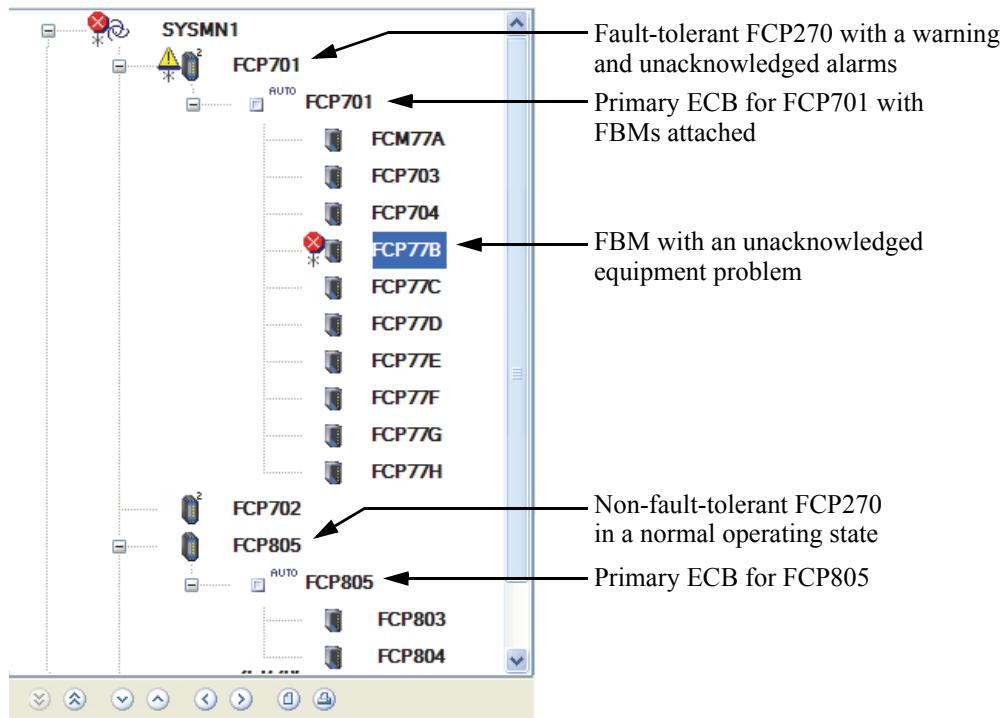

Figure 5-3. FCP270s and their Primary ECBS (Primary FBMs)
- Fieldbus Modules (FBMs) when the control processor is an FCP280, FCP270, CP40, or CP30 (Figure 5-3)
A symbol attached to the upper left corner of the control station, CNI, or ATS icon indicates an adverse condition. For example, for a station or one of its field devices, the warning symbol on FCP701 and the red failure symbol on the attached FBM in Figure 5-3 may appear. The alarm status associated with the control station is indicated by symbols on the lower left side of the station.